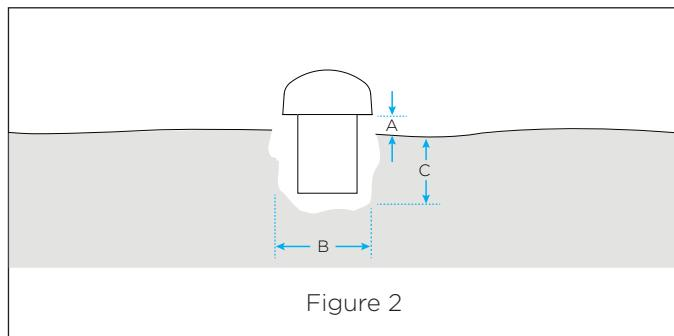

Figure 2
2. Dig the hole using the following guide (see Figure 2).